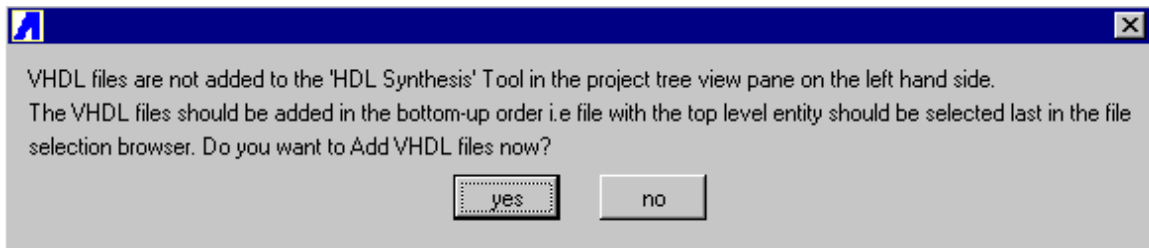

Figure 30 Add VHDL Files
- Press the **Synthesis Tool** button. A dialog to add the VHDL files appears, see **Figure 30**.